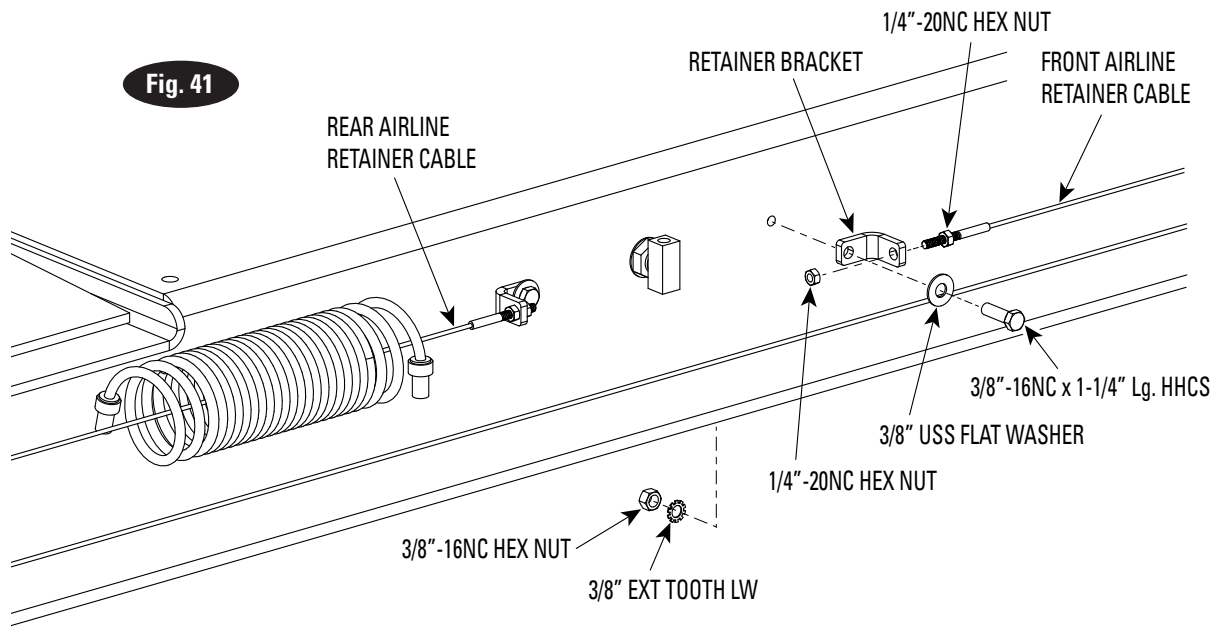

Fig. 41
- A. Assemble retainer cable. Insert retainer cable through coils of recoil hose, Fig. 41. Connect one end of recoil hose to coupling welded on rolling jack, Fig. 40.